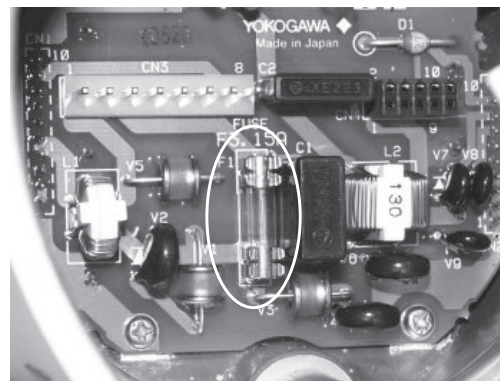

Figure 11.8 Location of Fuse
- (5) Remove the electronics completely to gain access to the fuse on the bottom of the equipment case (Figure 11.8).
- (6) Replace the fuse with a new one.